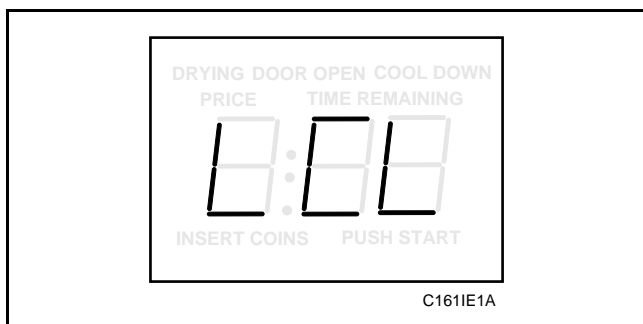

Figure 53
3. Press the LOW TEMP (+) pad or the NO HEAT (-) pad to scroll through the programmable options until “LCL” appears in the VFD, *Figure 53*.